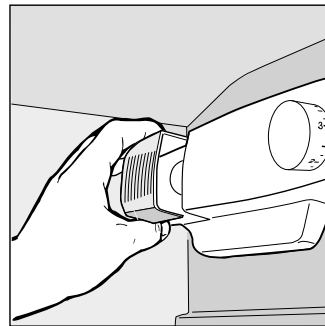

Fig. 5
- Replacing the light bulb. The bulb for lighting the interior of the appliance is located at the back of the thermostat box. Unscrew the burnt bulb and replace it with another bulb of no more than 15 Watt, follow the instructions illustrated in fig. 5.